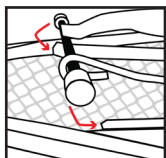
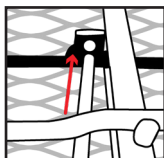

Figure 1
Figure 2
2. Lift Leg 1 slightly and position the white rollers on Leg 2 into the tracks (Figure 1) and gently roll along, sliding the metal rod through the hole in the lever arm (Figure 2).